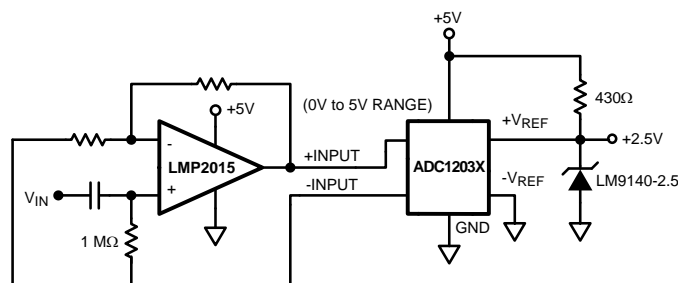
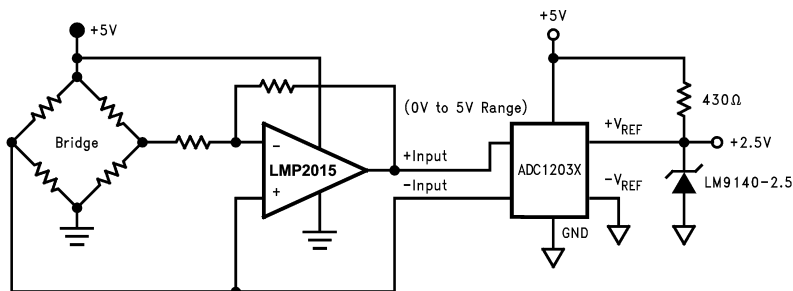

Figure 37. AC Coupled ADC Driver
Figure 38. DC Coupled ADC Driver
The LMP2015 is a great choice for an amplifier stage immediately before the input of an ADC (Analog-to-Digital Converter) as an ADC driver, whether AC or DC coupled. See Figure 37 and Figure 38. This is because of the following important characteristics:
- E)** Rail-to-Rail output swing maximizes the ADC dynamic range in 5V single supply converter applications. Figure 37 and Figure 38 are typical block diagrams showing the LMP2015 used as an ADC driver.